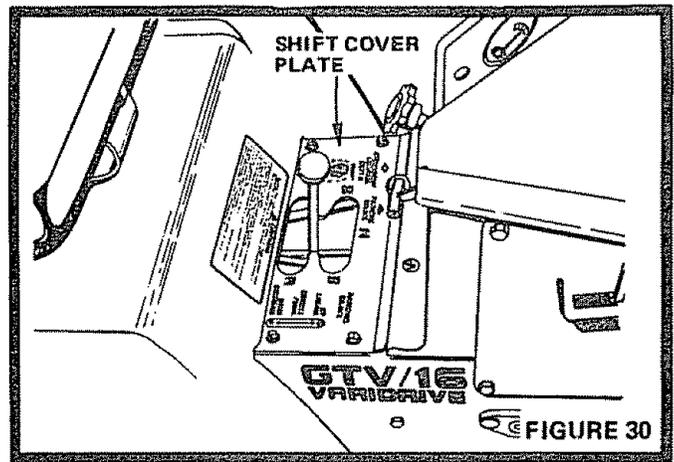

FIGURE 30
- a. Remove (4) Hex Washer Head Tapping Screws from Shift Cover Plate (Fig. 30), located on top tractor frame. Remove the Cover Plate.